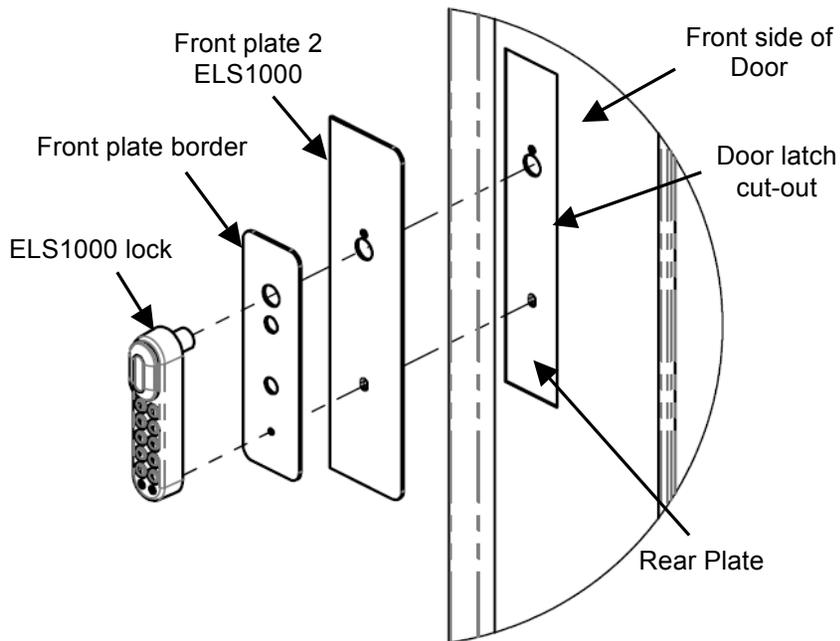

Fig. 4
3. Place the ELS1000 on the Front plate border and Front plate 2 with the lock spindle orientation up (Fig. 4).